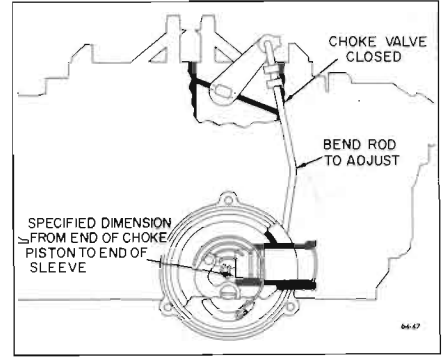

Figure 64-47—Choke Piston Adjustment
12. Choke Piston Adjustment. With choke valve held tightly closed, and with choke piston pushed lightly toward its cylinder (to take up any linkage slack), check to see that choke piston is projecting from cylinder specified amount. See Figure 64-47. If adjustment is required, bend intermediate choke rod using Tool J-5197.